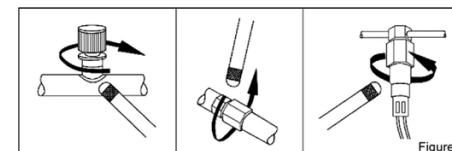

Figure 3
- Battery replacement and installation, as shown in Figure 3: